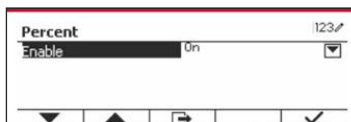

Figure 75
4. Select list item and press the softkey corresponding to the  icon to change setting. (See Figure 75)